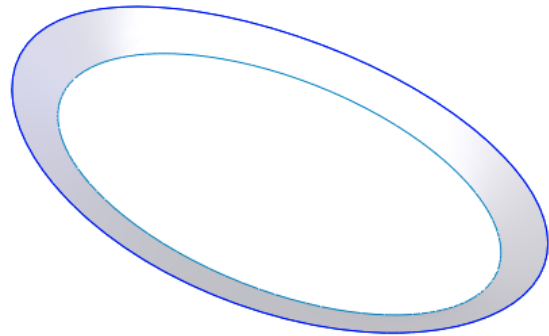

Figure 1-156 Lofted surface
6. Invoke the **Surface-Loft PropertyManager** by choosing the **Lofted Surface** button. Next, create a lofted surface by using the sketch and the projected curve created earlier. The lofted surface after hiding the base surface is shown in Figure 1-156.